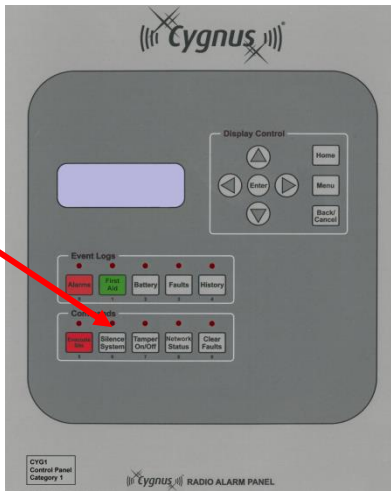

Figure 7-9: Control Panel showing the Silence System button
1. Press the **Silence System** button (Figure 7-9).